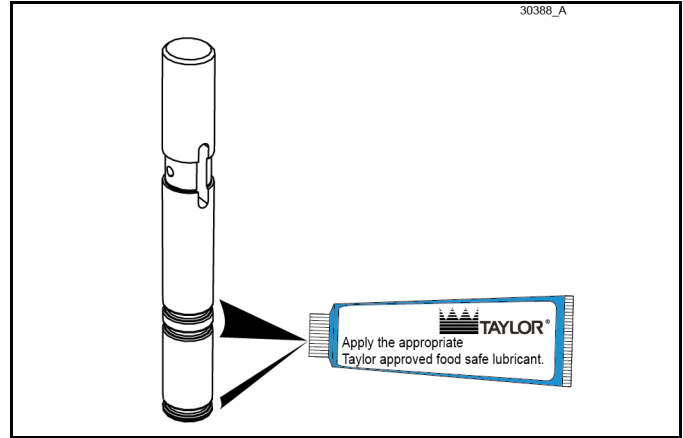

Figure 6-6
7. If the parts are in good condition, slide the three O-rings into the grooves on the draw valve and lubricate them. (See Figure 6-6.)